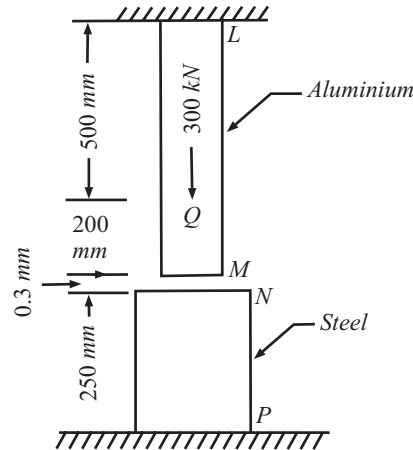

Fig. 14.32
Q. 45: A 700 mm length of aluminium alloy bar is suspended from the ceiling so as to provide a clearance of 0.3 mm between it and a 250 mm length of steel bar as shown in Fig. 14.32. $A_{al} = 1250 \text{ mm}^2$, $E_{al} = 70 \text{ GN/m}^2$, $A_s = 2500 \text{ mm}^2$, $E_s = 210 \text{ GN/m}^2$. Determine the stress in the aluminium and in the steel due to a 300kN load applied 500 mm from the ceiling.